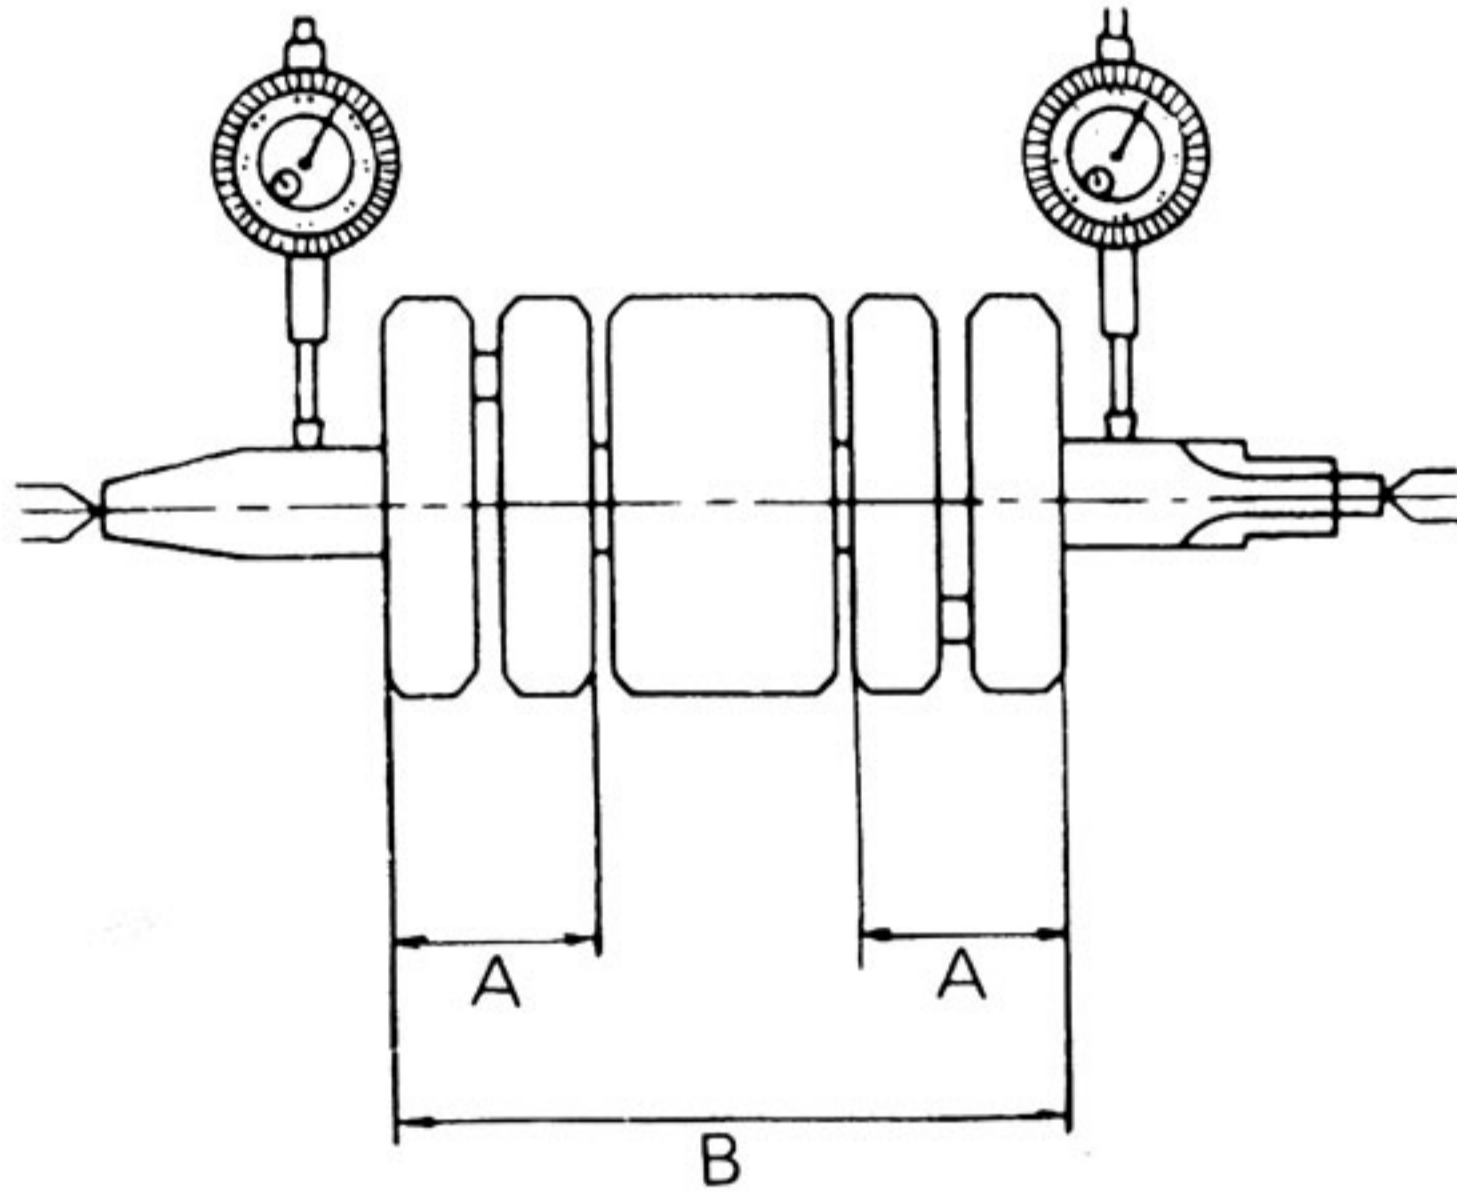

Fig. 4-17-24
(3) Overall Length and Runout of the Crankshaft (Fig. 4-17-24)